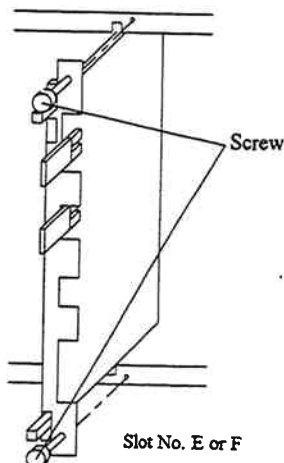

Fig. 3.7.5.3.2-2 Removal of PCB
- b. Fasten the two screws referring to Fig. 3.7.5.3.2-2.